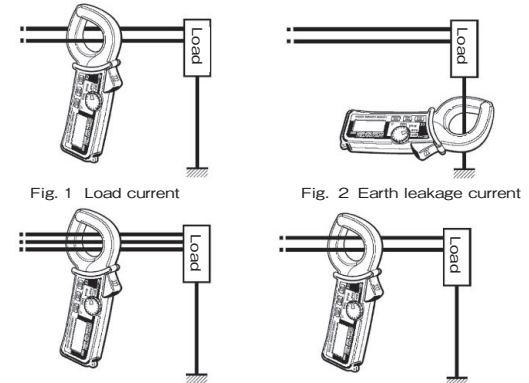

Fig. 3 Measuring out of balance leakage current
- (3)Measuring out of balance leakage current (See Fig. 3):